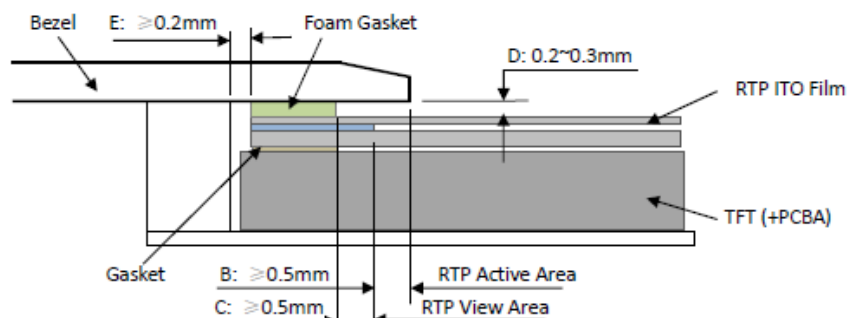

Figure 4
- It should bezel touching the RTP Active Area (A.A.) to prevent abnormal touch. It should left gap $D=0.2\sim0.3\text{mm}$ in between. (Figure 4)
- Outer bezel design should take care about the area outside the A.A. Those areas contain circuit wires which is having different thickness. Touching those areas could de-form the ITO film. As a result bezel the ITO film be damaged and shorten its lifetime. It is suggested to protect those areas with gasket (between the bezel and RTP). The suggested figures are $B\geq 0.50\text{mm}$; $C\geq 0.50\text{mm}$. (Figure 4)
- The bezel side wall should keep space $E=0.2\sim0.3\text{mm}$ from the RTP. (Figure 4)
- 为避免面框直接压在动作区 (A. A.) 上造成误动作，面框与电阻触摸屏 (RTP) 之间应留有一定的空隙 $D=0.2\sim0.3\text{mm}$ 之间。（附图 4）
- 设计面框时，要注意用面框保护触摸屏四周的非保证操作区域，因为布线区域在此处形成一台阶，在此区域附近操作时 ITO Film 变形较大，容易导致 ITO 损坏而降低寿命。为保护 RTP 和避免误操作，在 RTP 与面框之间垫缓冲物（Gasket），我们建议设计面框应覆盖动作区的边缘，面框边缘到 V. A. 区的距离 $B\geq 0.50\text{mm}$ ；垫圈内边缘到 V. A. 区的距离 $C\geq 0.50\text{mm}$ 。（附图 4）
- 在设计面框与 RTP 组装时，应考虑到面框内侧与 RTP 外侧的间距 $E\geq 0.2\text{mm}$ 。（附图 4）